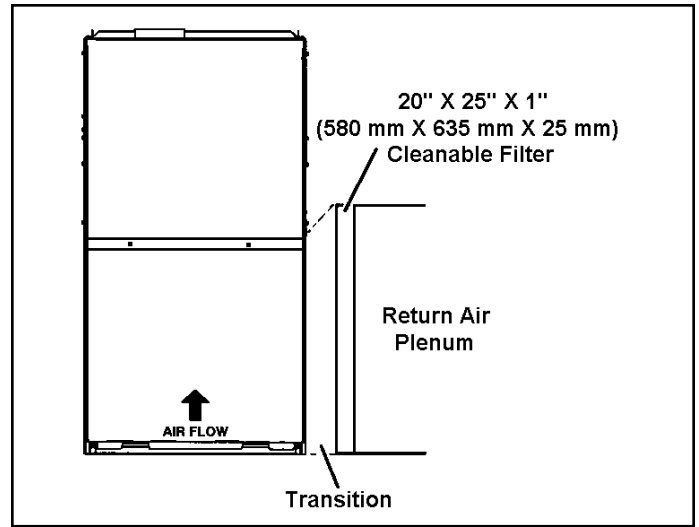

Figure 9. Single Side Return Air (with Transition and Filter)
1. Return air from single side with transition which will accommodate 20 x 25 x 1 in. (508 x 635 x 25 mm) cleanable air filter. Required to maintain proper air velocity. See Figure 9.